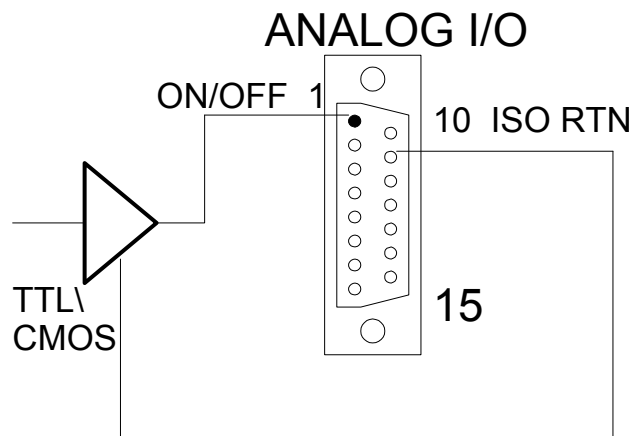

Figure 4-9: Remote On / Off Using Isolated TTL/CMOS Voltage Supply
2. Remote on/off control may be accomplished by a TTL/CMOS source. Application of a high state TTL/CMOS voltage will turn off the power supply. See Figure 4-9 for connection requirements.